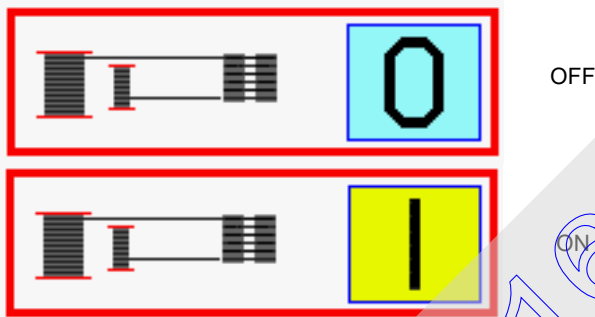

FIGURE 4-45
See Figure 4-45 and Figure 4-46 for the following procedure.
2. In **level 2**, use the select buttons to enter selected drum screen options. Select rigging winch data box (Figure 4-45).
2. In **level 2**, use the select buttons to enter selected drum options screen. Select rigging winch data box (Figure 4-45).